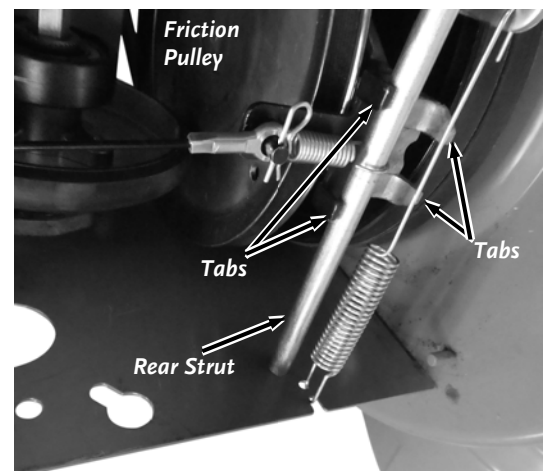

Figure 59
7. Look under the Frame and observe how the end tabs of the Friction Disc Bracket are located on both sides of the rear Strut (**Figure 59**). It is very important that it is installed this way when reassembled for proper operation.